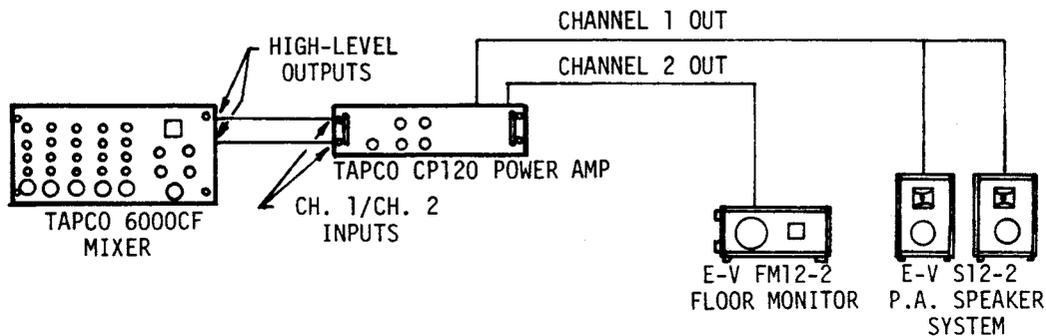

FIGURE 19 – Simple Monitor System
**Monitor Systems.** Up to this point all that has been covered are main or house systems. A discussion of "monitor" or "fold-back" systems is in order. In its simplest form you can send a signal from the main mix to your monitor. One way to do this is shown in Figure 19.